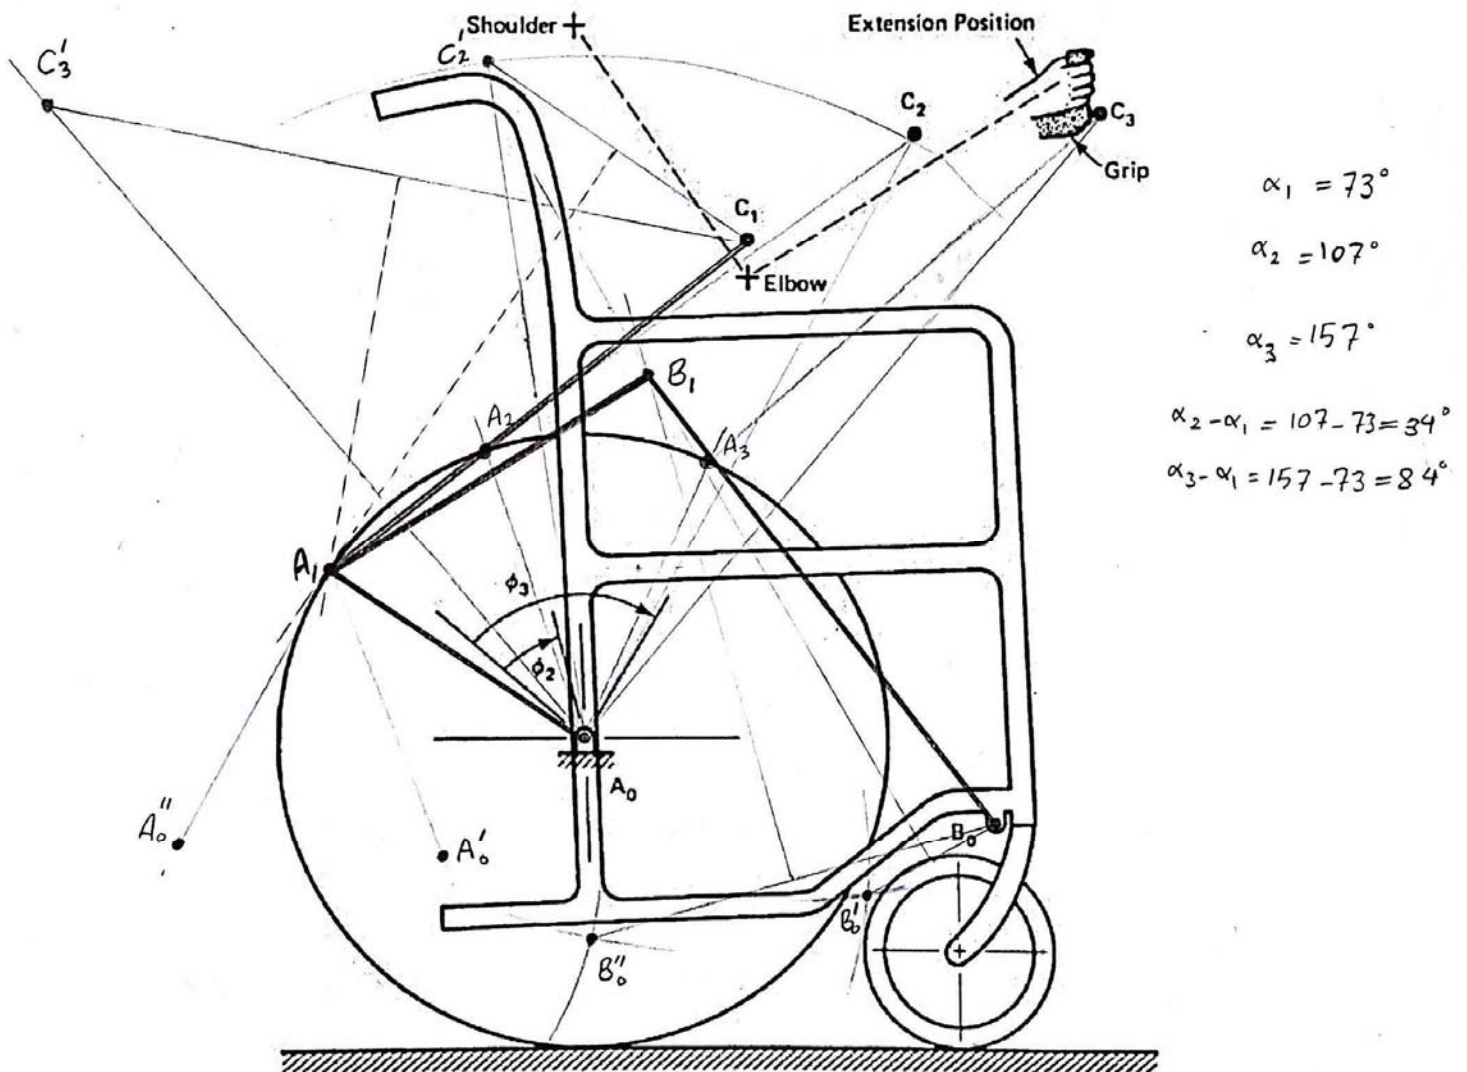

Figure P2.13
2.22. A four-bar path generator (with prescribed timing) is required as part of an arm-actuated propulsion system for the wheelchair in Fig. P2.13. The three prescribed path points shown have been determined to be the most efficient arm motion by a set of patients. This movement of the coupler path point ( $C_1, C_2, C_3$ ) provides the input, while the output is a rotation of the large wheel with a ground pivot at  $A_0$ . (A clutch located at  $A_0$  will slip when the patient returns from  $C_3$  to  $C_1$  along the same path.) The other ground pivot  $B_0$  is specified as well as the rotations of the wheel-driving link  $A_0A$  ( $\phi_2 = 38^\circ$  cw,  $\phi_3 = 80^\circ$  cw). By the graphical method, find the initial position of an acceptable four-bar linkage for this task.